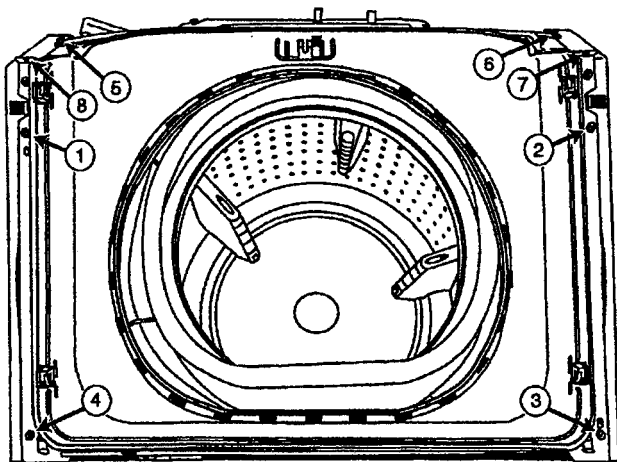

Figure 2-24
6. Remove eight hex-head screws around the front shroud assembly (*Figure 2-24*).
7. Removal and replacement of the screws in the following order, as illustrated, will aid in the removal and reinstallation of the assembly to the cabinet. Failure to do so will hinder removal and replacement of the shroud onto the cabinet (*Figure 2-24*).